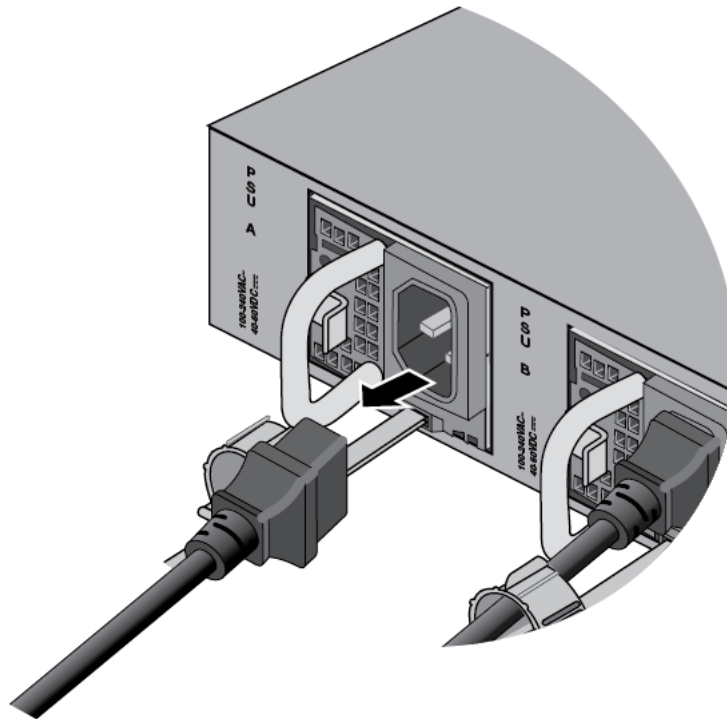

Figure 131. Disconnecting the Power Cord from the Power Supply
3. Disconnect the power cord from the power supply. Refer to Figure 131.